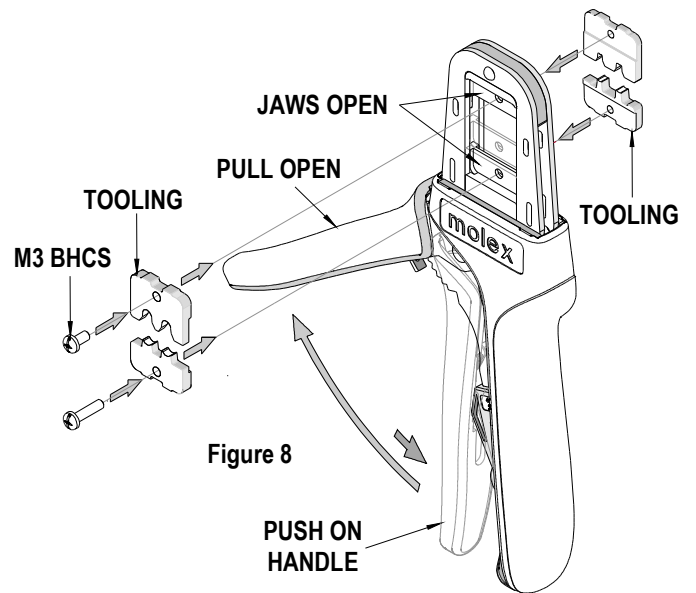

Figure 8
3. Flip the upper tooling to the opposite side and replace the M3 BHCS. Make sure the small markings on the front and back of the hand tool match up and are on the outside of the hand tool frame. See Figure 8 and 9.